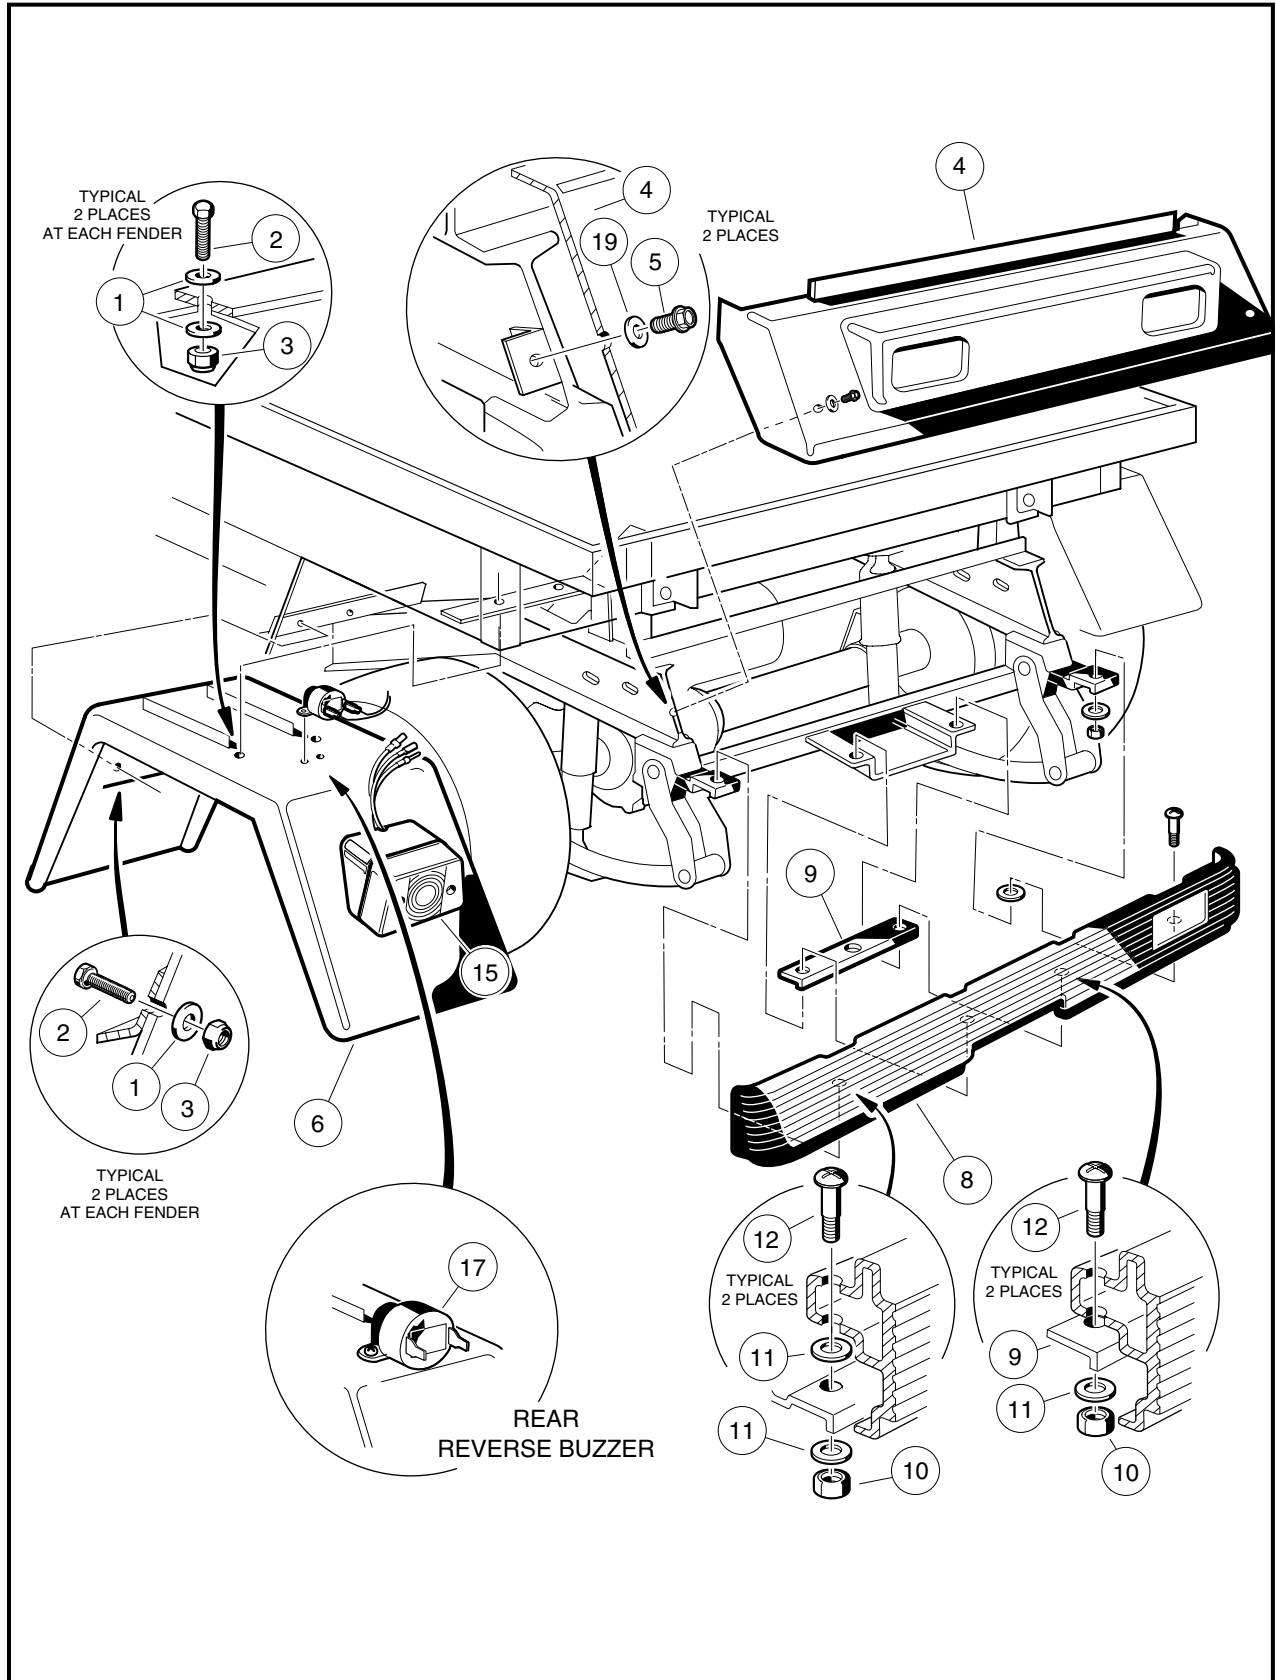

Figure 4-14 Rear Fender, Tailskirt and Bumper – Transporter 4 and 6
1. Disconnect the three wires that supply power to the taillights (15) (**Figure 4-14, Page 4-19**).
2. Remove the two nylon lock nuts (3), flat washers (1) and bolts (2) from front of fender (6).
3. Remove the two lock nuts (3), flat washers (1) and bolts (2) from top of fender (6).
4. Disconnect the two wires from the reverse buzzer (17).
5. Remove the fender (6) from vehicle.
1. Connect the two wires to the reverse buzzer (17) and install rear fender (6) (**Figure 4-14, Page 4-19**).
2. Install the two nylon lock nuts (3), flat washers (1) and bolts (2) onto top of fender (6).
3. Install the two nylon lock nuts (3), flat washers (1) and bolts (2) onto front of fender (6). Tighten hardware to 35 in-lb (4.0 N·m).
1. Remove the two thread-forming screws (5) and flat washers (19) from tailskirt (4) and lift the tailskirt from the frame (**Figure 4-14, Page 4-19**).
1. Insert upper edge of tailskirt (4) under and in front of the back edge of the rear body (**Figure 4-14, Page 4-19**).
2. Align holes in tailskirt (4) with holes in vehicle frame. Position tailskirt flush against vehicle frame.
3. Install two thread-rolling screws (5) and flat washers (19) in tailskirt and tighten to 55 in-lb (6.2 N·m).
1. Remove four lock nuts (10), six flat washers (11), four phillips bolts (12), and mounting plate (9) from rear bumper (8) (**Figure 4-14, Page 4-19**).
1. Install the rear bumper in the reverse order of removal. Tighten nuts to 65 in-lb (7.3 N·m) (**Figure 4-14, Page 4-19**).